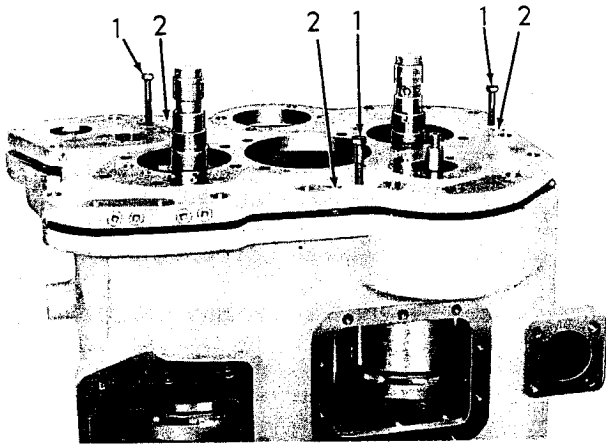

Fig. 26 -- Removing Transmission Front Cover
5. Remove clutch shaft front bearings; use pusher screws to remove front cover, Fig. 26.